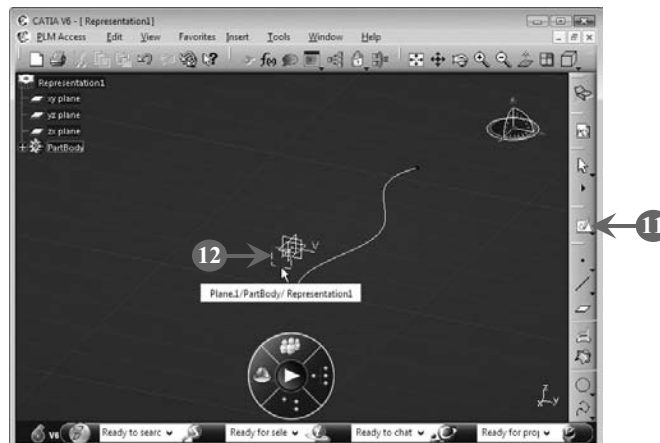

FIGURE 5.71
The sketching plane is created (Figure 5.71).
11. Click the **Sketch** button on the **Sketcher** toolbar to draw the sketch of the profile of the desired swept surface (Figure 5.71).
12. Select the sketching plane, as shown in Figure 5.71: